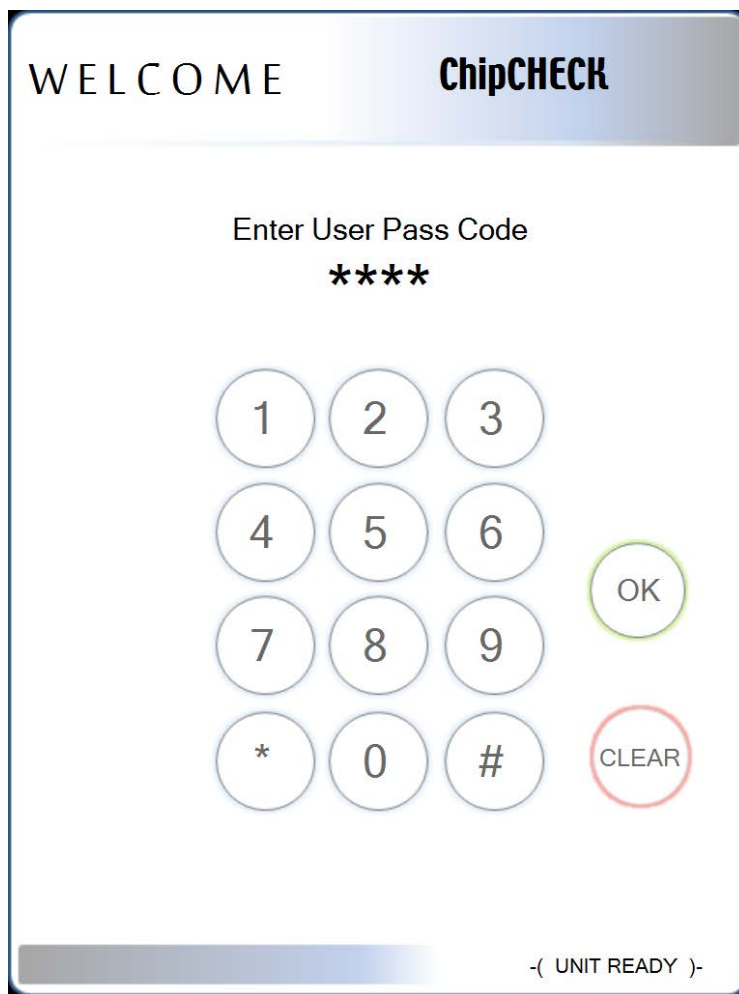

Figure 5-2: Welcome Screen
Once the software is initialized, or after an extended period of no use, the software interface displays the 'Welcome Screen' as shown in Figure 5-2 above. There are multiple types of equipment Users (Operator, Maintenance, Expert). Each are granted different levels of access to a variety of screens and action types. This access is dependent on the pass code entered in the Welcome Screen.
**NOTE:** As seen in Figure 5-2 above, the status bar indicates that the unit is powered and ready, and the User must enter their pass code to proceed.